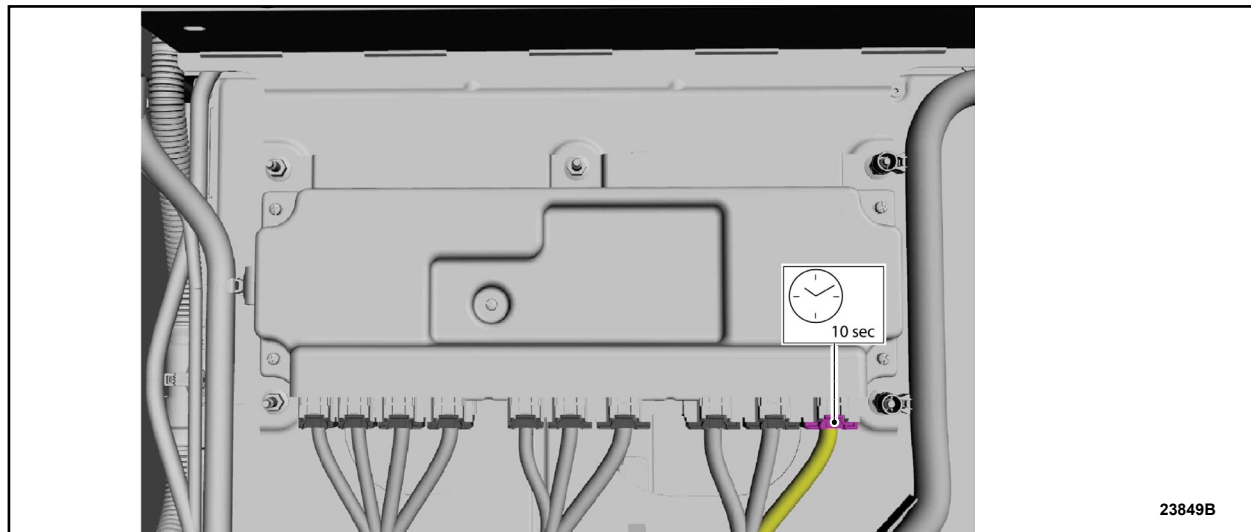

FIGURE 2
**NOTICE:** Wait 10 seconds after disconnect the BECM electrical connector shown, See Figure 2, before disconnecting the remaining electrical connectors or component damage may occur.
4. Disconnect the BECM electrical connector. See Figure 2.